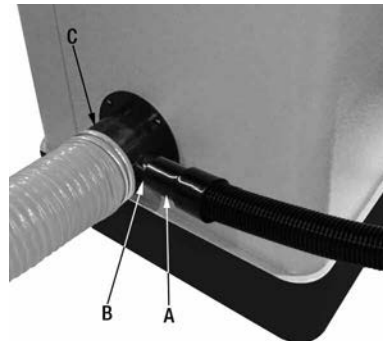

FIGURE 3
Slide other end of the hose (A) Fig.3 over the 1-1/2" fitting (B) on the side of the 4" dust chute (C) of the Cabinet Saw (model KC-10KX).